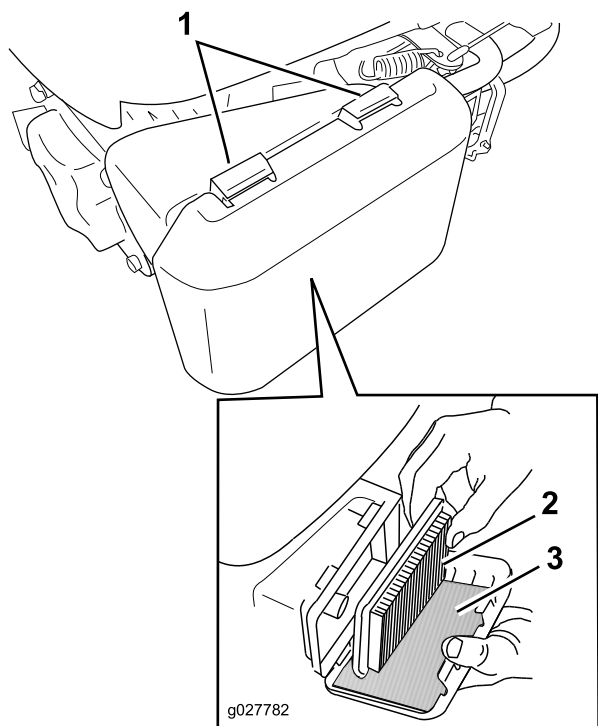

Figure 21
1. Press down on the latch tabs on top of the air-cleaner cover (Figure 21).
3. Remove the paper air filter and the foam pre-filter (Figure 21).